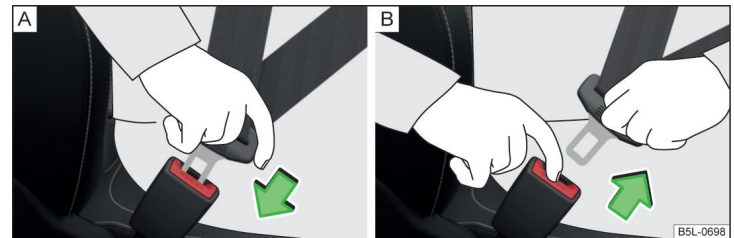

Fig. 6 Fastening/unfastening the seat belt
- › Insert the lock tongue into the belt buckle » Fig. 6 - A that is part of the seat until it clicks into place.
- › Grip the lock tongue and press the red button in the buckle » Fig. 6 - B, the lock tongue pops out.